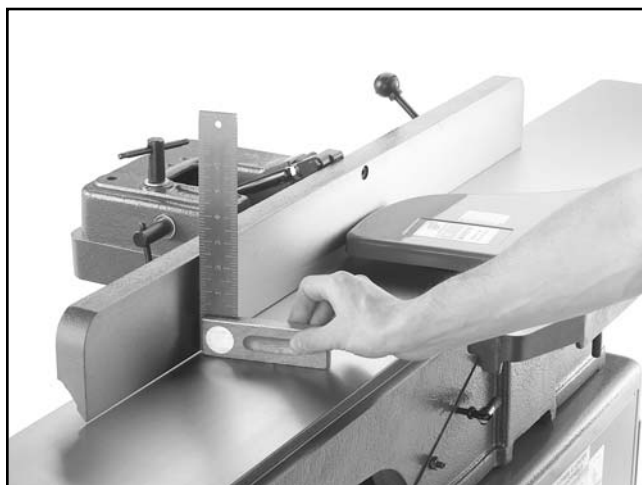

Figure 41. Checking the fence with a 90° square.
2. Place a 90° square on the table and against the fence as shown in **Figure 41**.